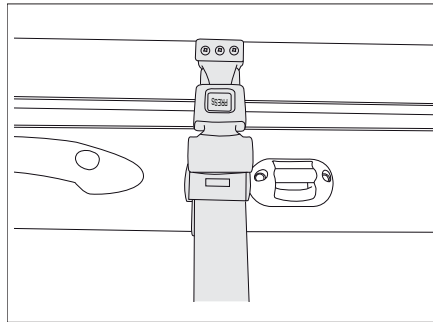

Fig. 153 Safety belt
- Loosen the retaining belt (Fig. 153).
- Attach the retaining belt (Fig. 153).